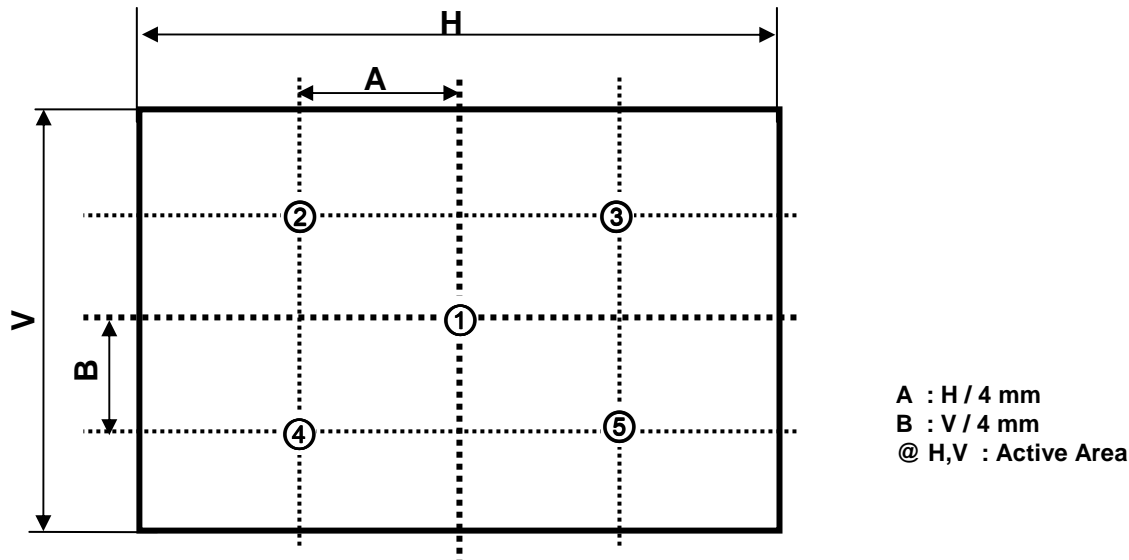

FIG. 2 5 Points for Luminance Measure
2. Surface luminance is determined after the unit has been 'ON' and 1Hour after lighting the backlight in a dark environment at $25 \pm 2^\circ\text{C}$. Surface luminance is the luminance value at center 1-point across the LCD surface 50cm from the surface with all pixels displaying white. For more information see the FIG. 2.
For more information, see the FIG. 2.